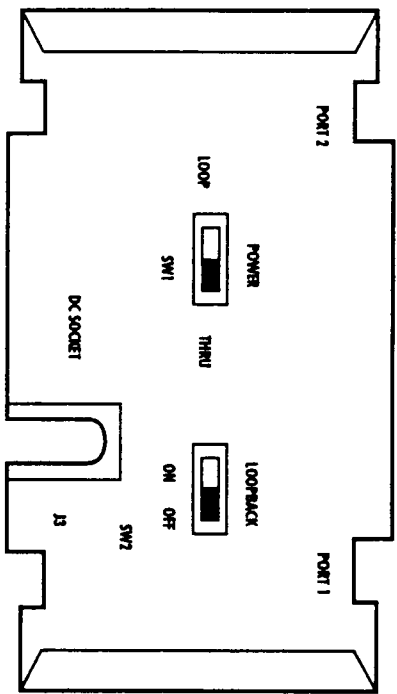

Figure 3-1. Strapping Diagram.
2. Change the switch position to “loop power” (refer to **Figure 3-1**).